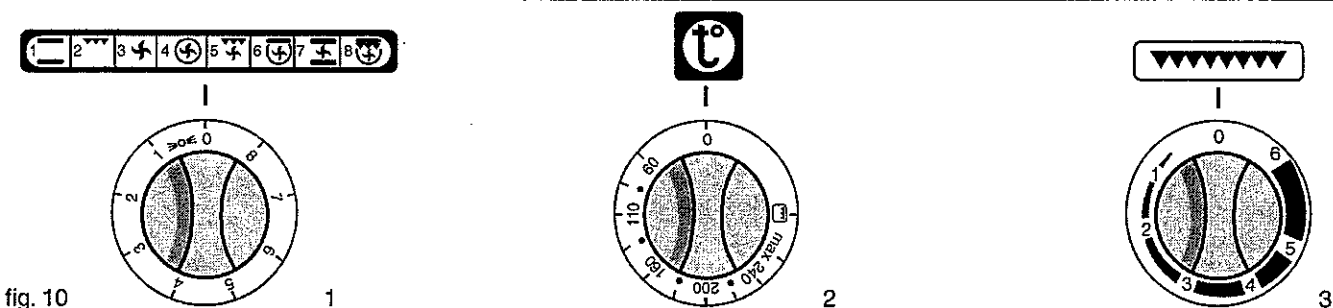

fig. 10
- When knob (1) (Fig. 10) is turned a selector activates the cooking functions identified by the symbols: